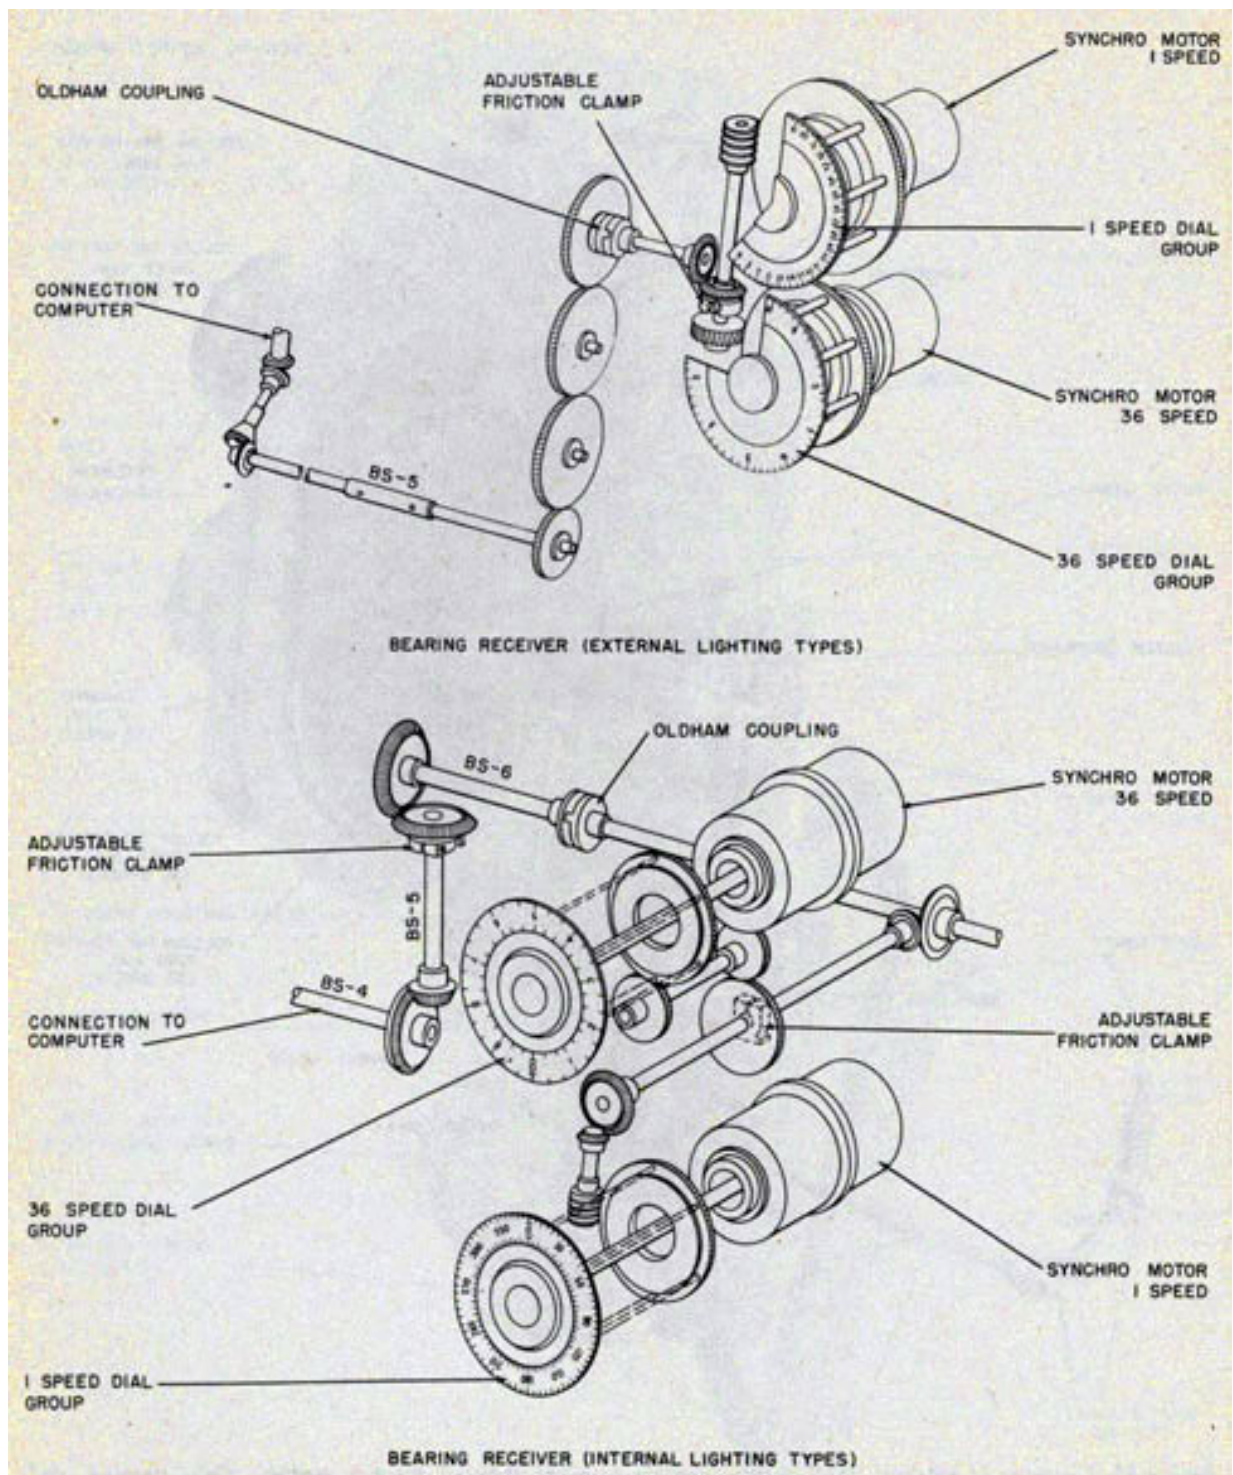

Figure 56-Diagram showing the differences between the gearing and shafting of the external and internal lighting types of bearing receivers.
Bearing Receivers. There are two general types of bearing receivers used with the torpedo director: (1) the external lighting type and (2) the internal lighting type. See figure 56. The external lighting type, the production model, is described first and the internal lighting type last on pages 54-55.